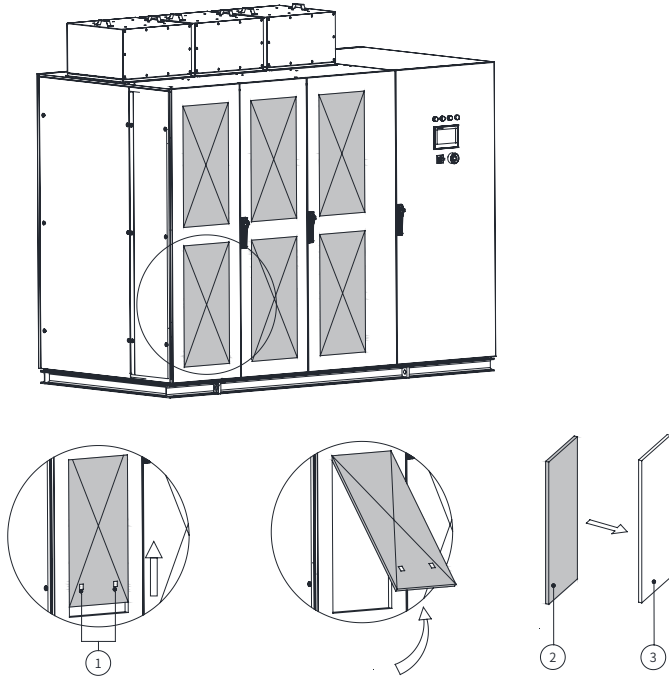

Figure 8-1 Procedure for replacing the air filter
①	Hole
②	Front frame
③	Filter mat
- 1) Do as followings to remove the filter, as shown in Figure 8-1.